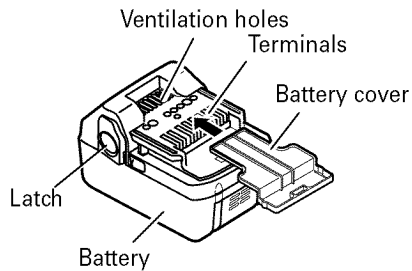

Fig. 1
- **Either install the battery in the power tool or store by securely pressing into the battery cover until the ventilation holes are concealed to prevent short-circuits (See Fig. 1).**